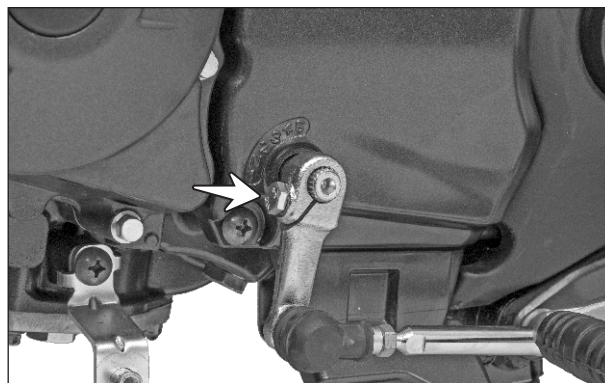

Fig. 3.101
- Remove hexagonal screw (M6x20 - 1 no.) from the arm gear shifter lever mounting. (Fig. 3.101)